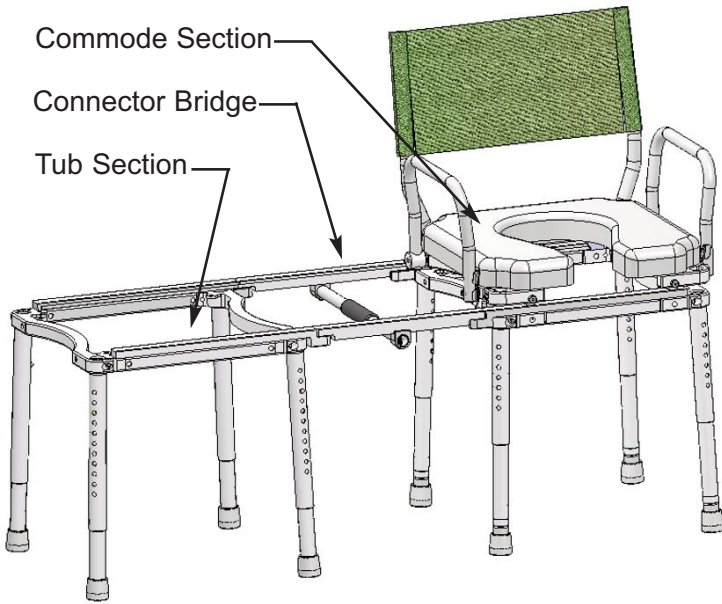

Figure 1
**A** The multiCHAIR 5200 (Refer to Figure 1) is composed of three sections: the commode section, the connector bridge section, and the tub section which has straight legs and adjusting feet. The chair is shipped standard with the tub section positioned on the user's left side.